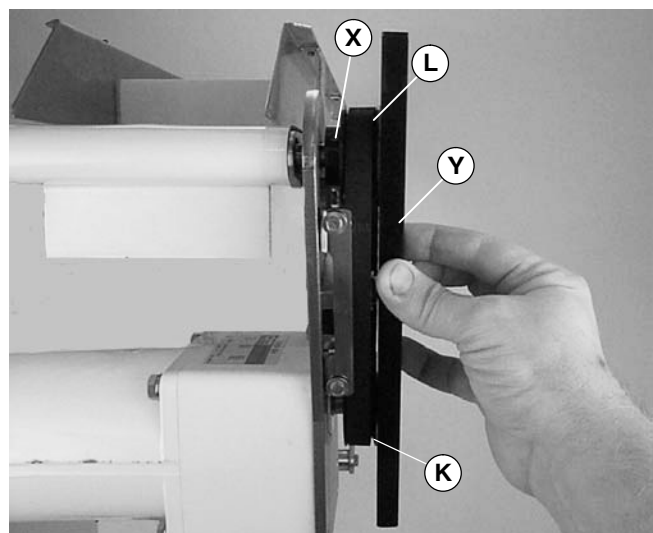

Figure 7
6. Wrap timing belt (O) around driven pulley (L) and drive pulley (K). Install driven pulley (L) onto conveyor input shaft (T) and key (M).
7. Using a straight edge (Y of Figure 7), align driven pulley (L) with drive pulley (K). Tighten driven pulley set screws (X).